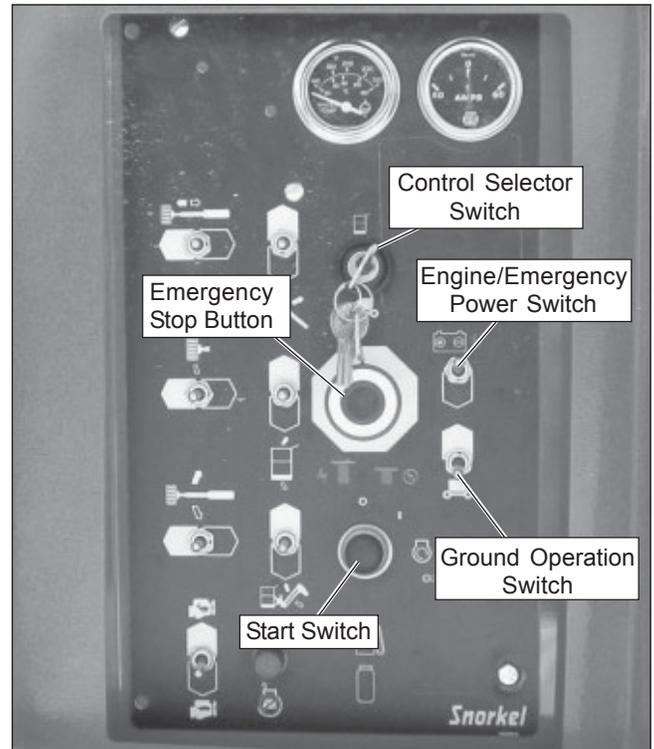

Figure 10.2 – Lower Controls
2. Place the key in the control selector switch (refer to Figure 10.2) and turn the control switch to the lower control position.